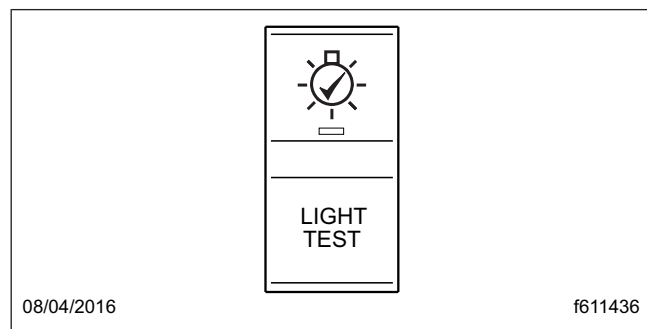

Fig. 23.9, Pretrip Light Test Switch
- 11.3 Press the LIGHT TEST switch on the dash, shown in **Fig. 23.9**, to begin the pretrip light inspection.